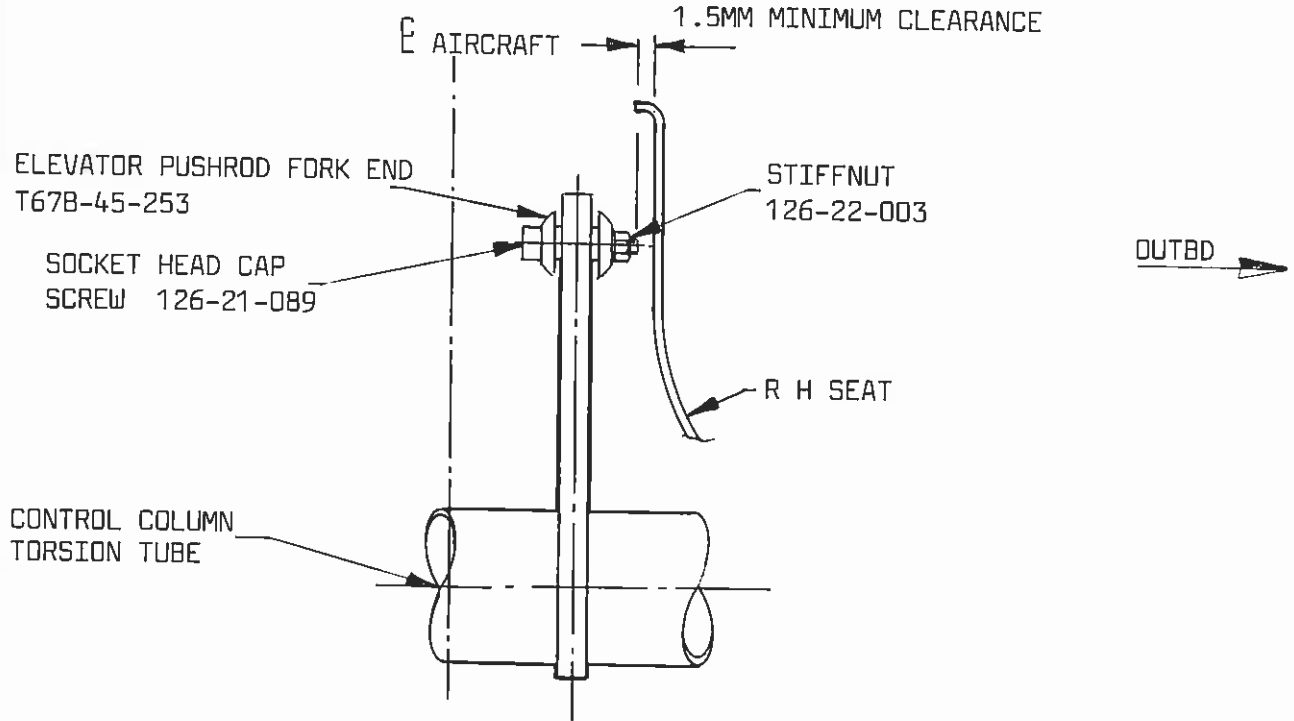

FIG 1
2. Compliance B: Remove centre console and check bolt tail or bolt head to seat side clearance Ref Fig. 1. Clearance to be a minimum of 1.5mm.